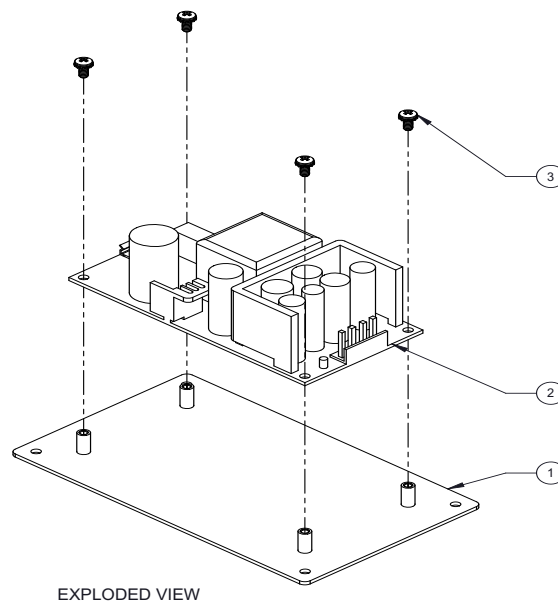

Figure 3. Power supply metal plate mounting
11. Replace with 296877 power supply service kit, mount it with screws. Refer to Figure 3.